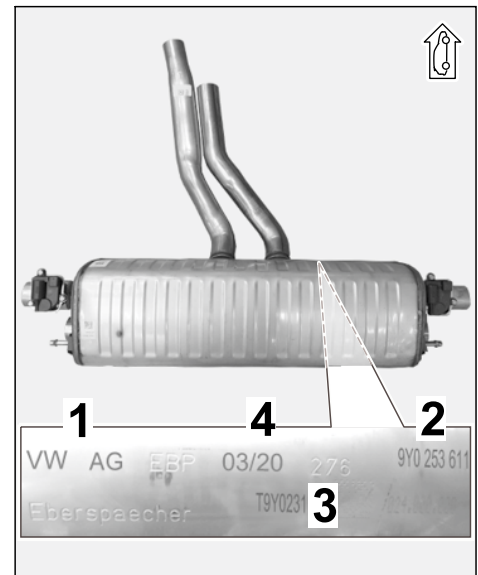

Figure 5
– Rear silencer (⇒ *Figure 5*):